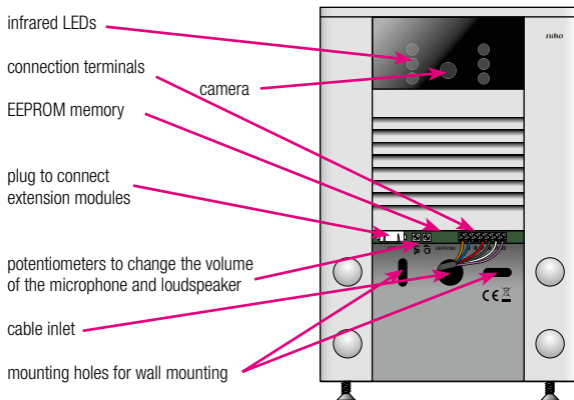

Fig. 2: making connection terminals and mounting holes visible
3. Slide the nameplate down, so the connection terminals become visible (fig. 2).
To extend the external video unit with additional bell push buttons, you connect one or more extension modules to the external video unit. Niko recommends the use of extension modules that are the same size as the external video unit (see chapter 6). You connect the extension modules to the external video unit by connecting the connection cable of the extension module to the plug provided for this purpose in the external video unit (fig. 2 and 4).